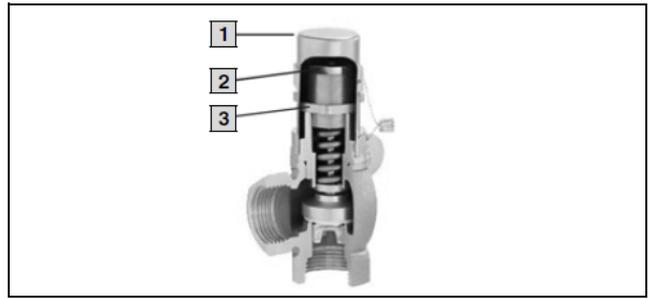

Fig. 27: Overflow valve
- Installing an overflow valve (option, see section 11 "Accessories") ensures that cooling water circulation is always maintained with the magnetic valves of the air/water heat exchangers closed and the chiller pump running. This is achieved by opening the overflow valve as soon as the static pressure exceeds the value set on the valve (fig. 27).